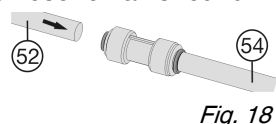

Fig. 18
- Connect the supplied extension hoses Fig. 18 (54) to the appliance hoses Fig. 18 (52): Slide the appliance hoses into the connectors as far as they will go (approx. 21/32 " (17 mm)).*